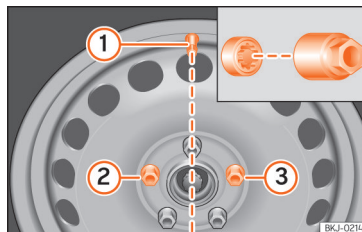

Fig. 196 Tyre change: tyre valve **①** and the correct position for the anti-theft wheel locking bolt **②** or **③**.
On wheels with integral hubcaps, the anti-theft wheel locking bolt must be screwed in the positions **>>> Fig. 196 ②** or **③**, taking as reference the position of the tyre valve **①**. Otherwise it will not be possible to mount the hubcap.